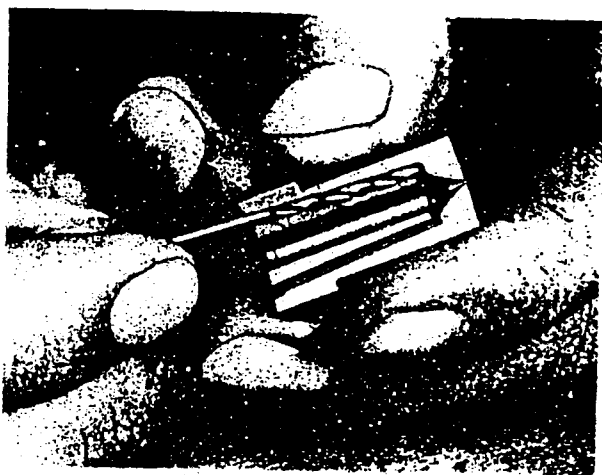

FIG. 127.
2. Clean out the three drillings that feed the lower reservoir in the nozzle body either with a piece of wire or a No. 51 twist drill (0.66" dia.), see Fig. 127. These bores are rarely choked and the insertion of the drill or wire by hand will be sufficient. If, however, they do contain a heavy carbon deposit, it is advisable to use a  $\frac{1}{16}$ " diameter drill, also by hand, first.